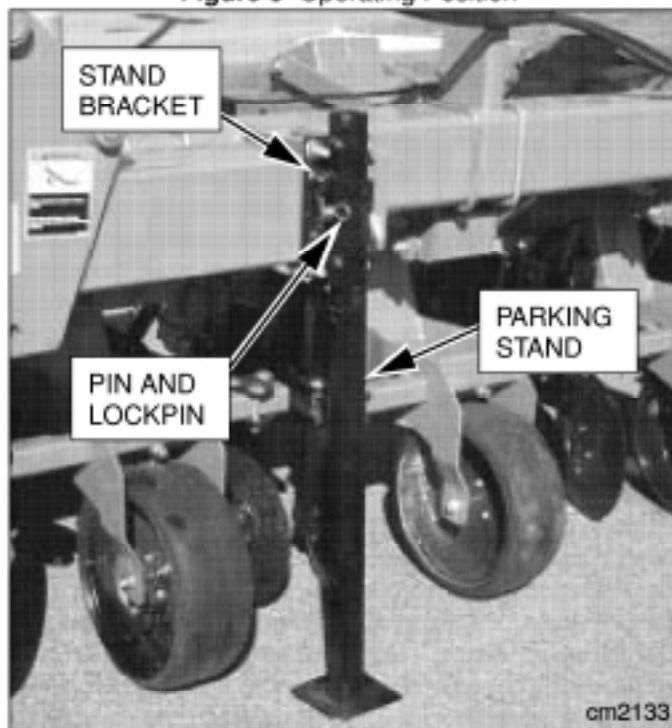

Figure 6 Front Parking Stand Lowered and Pinned
6. Lower front parking stands to the ground and pin in position so that parking stands will be vertical when the tractor is removed. See Figure 6.